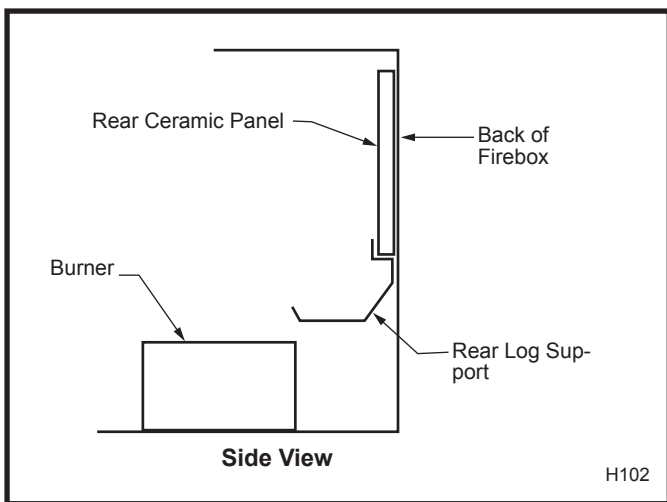

Fig. 75 Rear ceramic panel placement.
4. Place rear ceramic panel in back of unit. (Fig. 75)